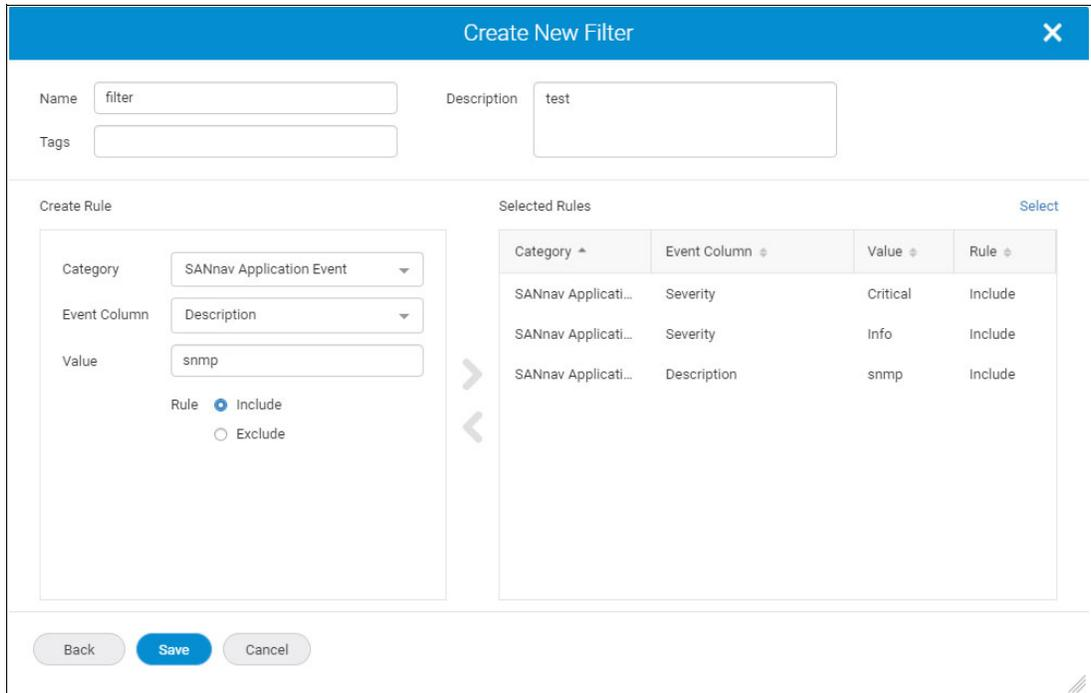

Figure 5-160 Creating a forwarding filter
7. Create a filter rule by providing the event category, event column, and respective value of the event column (Figure 5-160 on page 231). You can also include or exclude these rules by using the **Include** or **Exclude** options. You can create multiple rules in a single fabric. When you create multiple rules with similar event columns, events that match any of these rules are forwarded to the destination server. When you create multiple rules with different event columns, events that match all the rules are forwarded to the destination server.